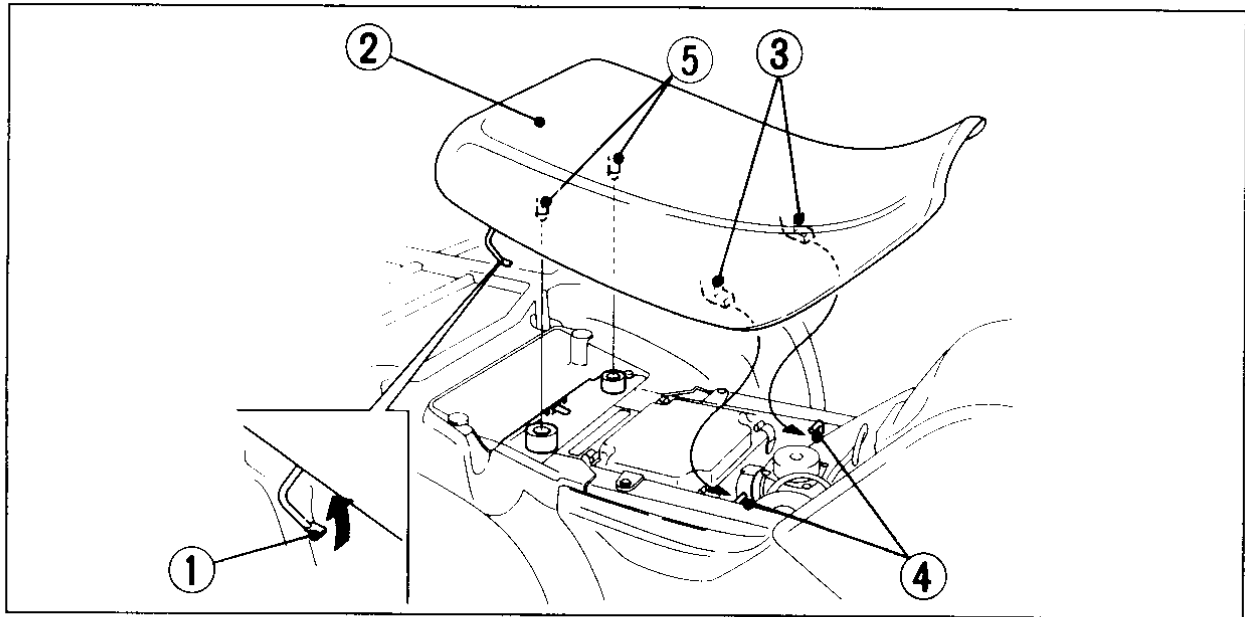

Fig. 4-36
To remove the seat (Fig. 4-36), pull up the seat lock lever (1) at the right side of the seat and lift it up.